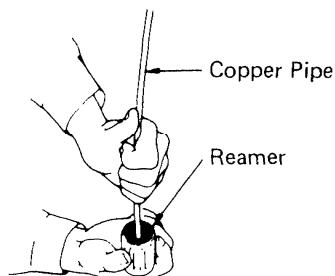

Fig. 24
- Note :** When reaming, hold the pipe end downward and be sure that no copper scraps fall into the pipe. Fig. 24